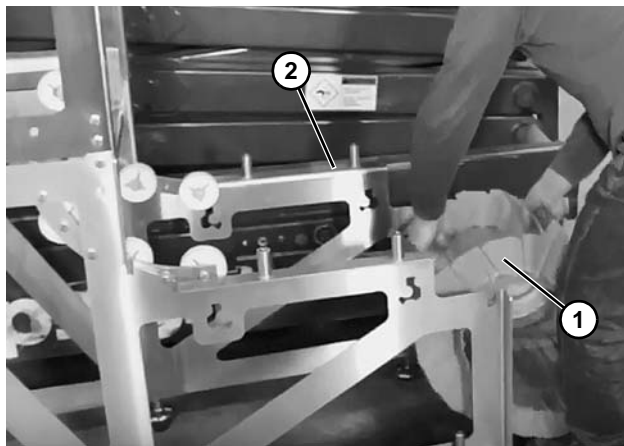

Figure 53
1. Place the belt (Figure 53, item 1) in front of the conveyor (Figure 53, item 2) on the infeed side.